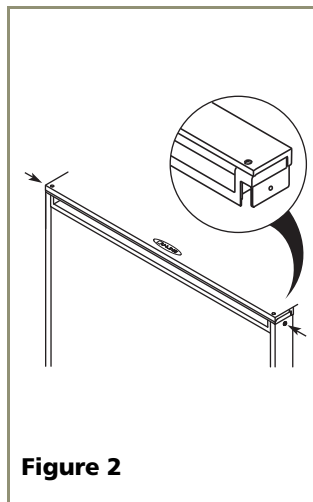

Figure 2
2. Remove and save the two screws located at the ends of the handle (see **Figure 2**). Remove the handle.